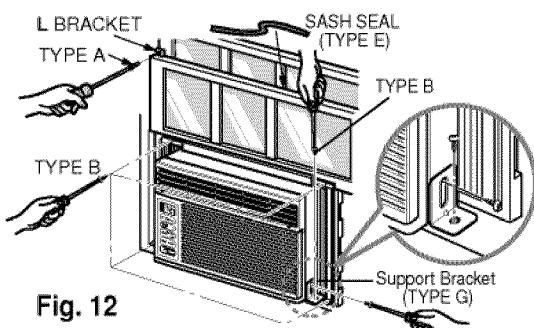

Fig. 12
Extend the guide panels (TYPE F) to fill the window opening using 4 screws (TYPE B) to secure them, as shown in Fig. 12.
- a. Cut the sash seal (TYPE E) to the window width. Stuff the sash seal between the glass and the window to prevent air and insects from getting into the room, as shown in Fig. 12.
b. Fasten the L bracket using a (TYPE A) screw, as shown in Fig. 12.